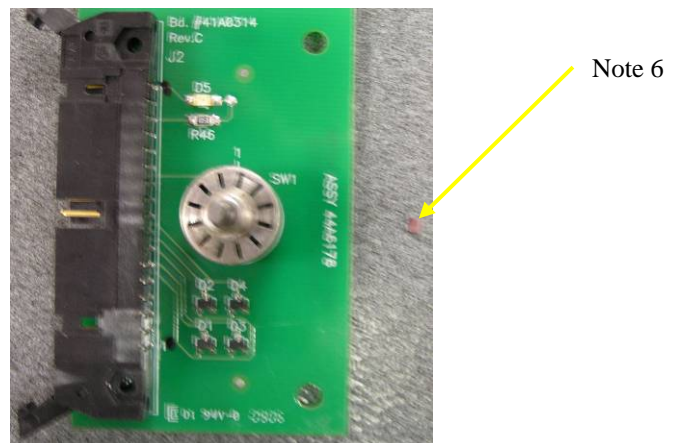

Figure 7: Rotating Switch Pin
8. After the Rubber Ring has been removed, turn the switch over and gently tap it on a flat surface, to remove the Switch Stops indicated by Note 6 in Figure 7. There should be two Switch Stops. They are small, flat square metal pieces.